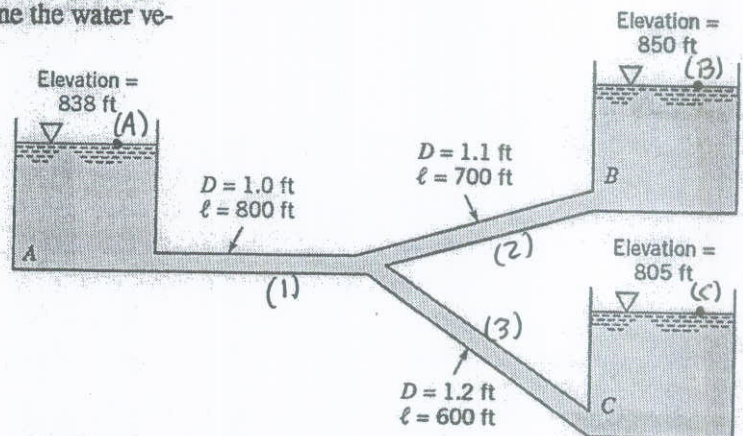

FIGURE P8.111
8.111 The three tanks shown in Fig. P8.111 are connected by pipes with friction factors of 0.03 for each pipe. Determine the water velocity in each pipe. Neglect minor losses.